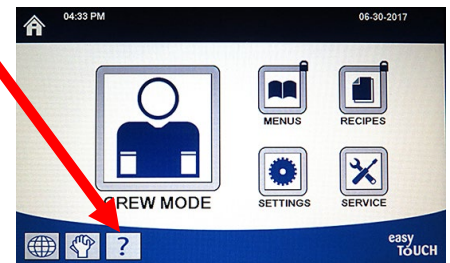

Figure 8
- Press the ? button (see Figure 8).